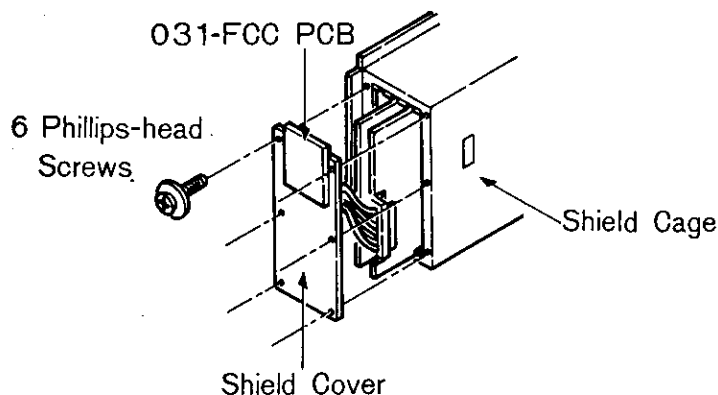

Fig. 18 Game PCB removal
- (e) After servicing the Game PCB, shut the Shield Cover completely by the Screws. See Fig. 18.